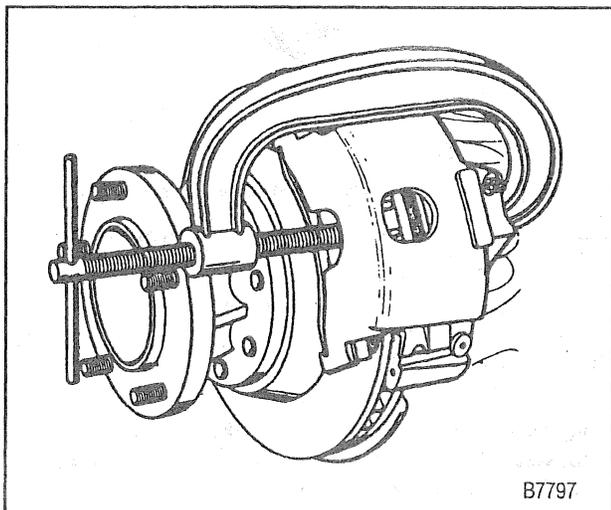

Figure 16—Compressing the Caliper Piston
5. Position a C-clamp and tighten until piston bottoms in bore (figure 16).
8. Bolt (2).
9. Support key (3) and spring (4).